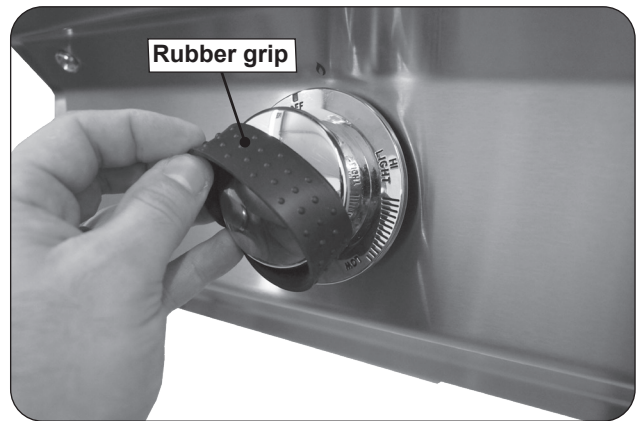

Fig. 29-1 Remove rubber grips
2. Remove the rubber grip from the control knob (see Fig. 29-1).